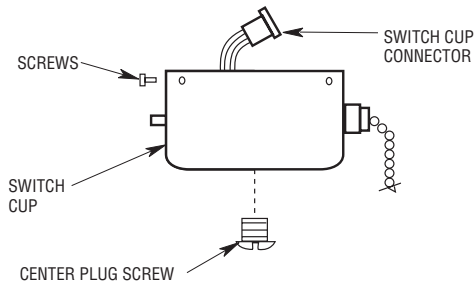

Figure 7
- 1. Remove the center plug screw from the switch housing assembly (Figure 7). Remove and retain the two wire connectors.